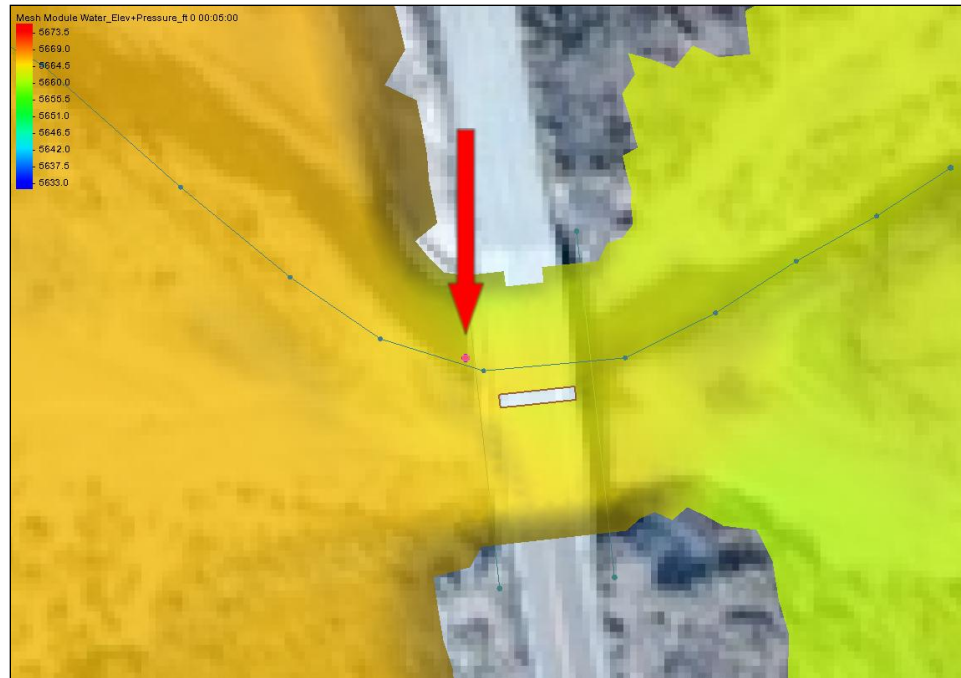

Figure 2 Observation point location
2.  **Zoom** in on the area around the pressure bridge (Figure 2).
3. Using the **Create Feature Point**  tool, create a point near the pressure bridge on the upstream side (Figure 2).